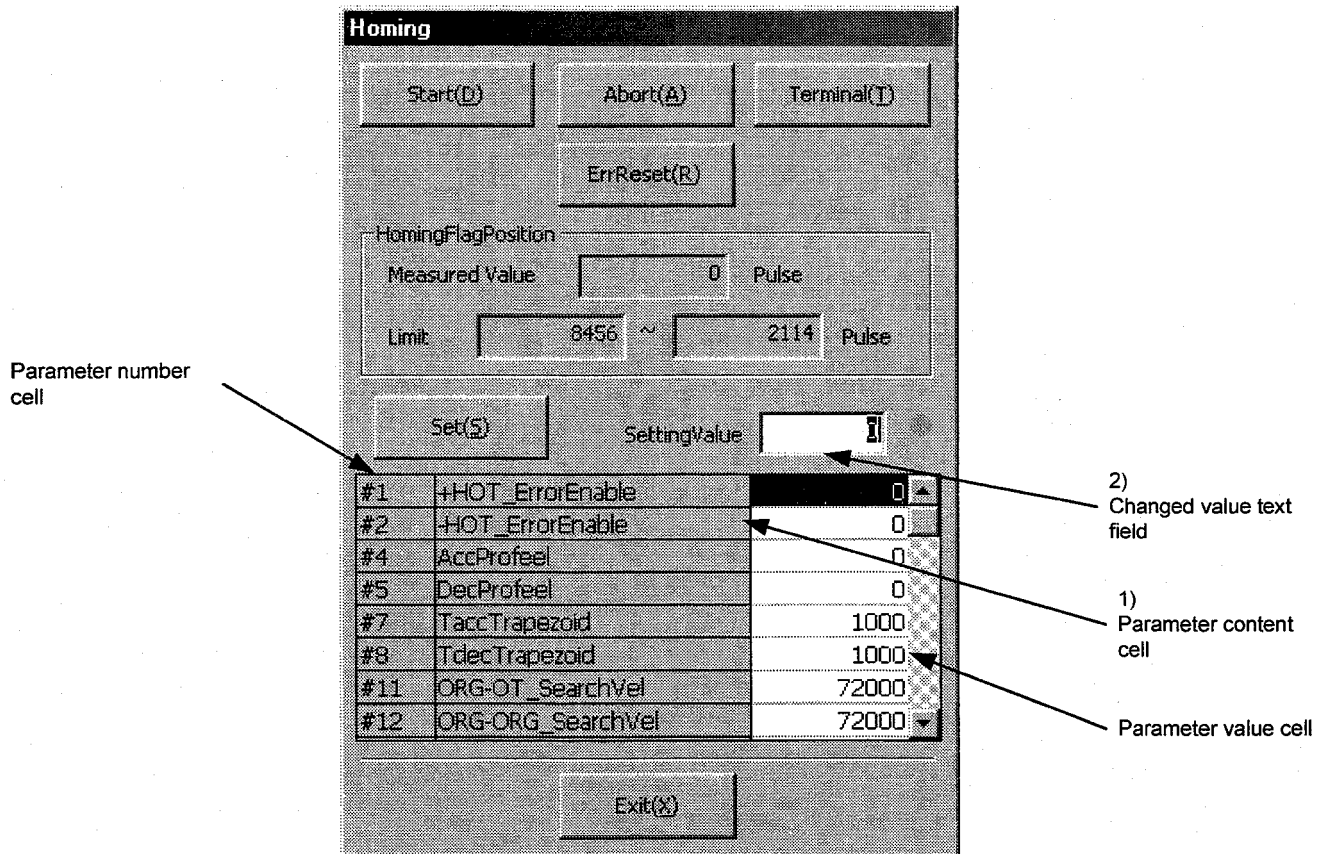

Figure 7.25 "Homing" dialog box
Click "*Homing (O)*" in the "DriveMenu" dialog box to display the "Homing" dialog box (see Figure 7.25). If the connection with the driver is established, the current values of the related parameters are read and can be edited.